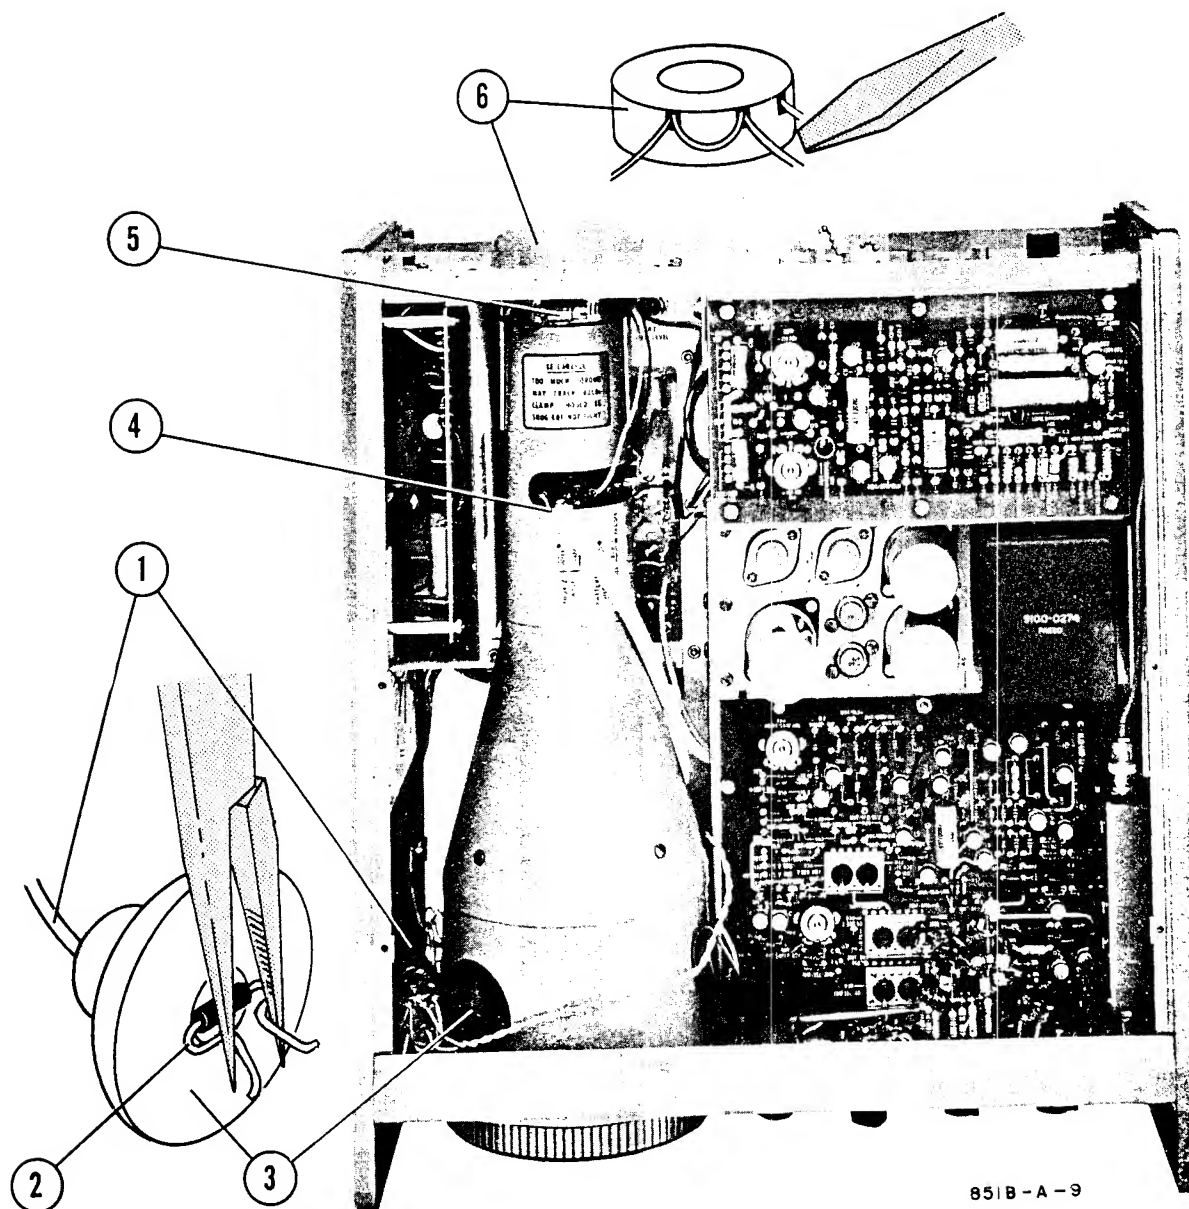

Figure 5-12. Cathode-Ray Tube, Parts and Connections Involved in Removal
5-143. REMOVAL. It is recommended that a face mask or goggles and gloves be used when it is necessary to handle the CRT. Perform removal procedures with 851 in normal position. To reach the CRT, remove 851 top cover. Parts mentioned in the following procedure are identified in Figure 5-12 by numbered callouts. To remove:
- a. Disconnect post-accelerator lead (1).
- (1) The post-accelerator lead connects to the tube by means of a spring-clip arrangement (2), and the connection is protected by a rubber cap (3).
- (2) Lift edge of cap with screwdriver and, using a pair of long-nose pliers, compress spring contacts as indicated in Figure 5-12. This will free lead-and-spring assembly from recess.
- b. Disconnect the six leads (4) at the neck of the CRT. The lead pins pull straight out; be careful not to bend the pins.
- d. Loosen clamp (5) at socket of CRT.
- e. The socket (6) is a tight fit; with a screwdriver carefully pry socket loose, and remove it.